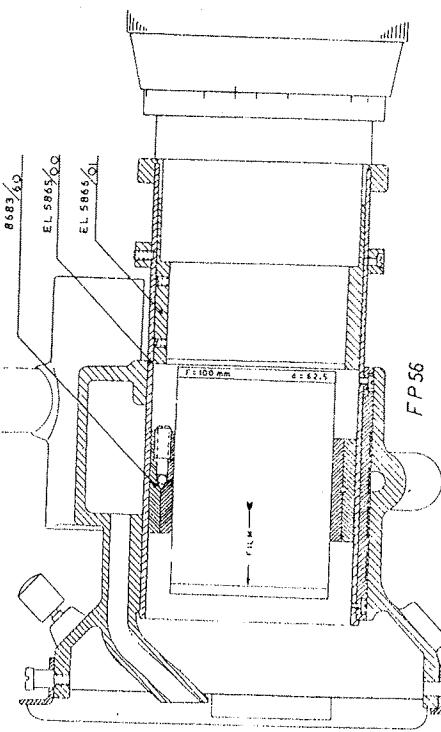

Fig. 20
1:2.34	CinemaScope Fig. 20
b. CinemaScope projection with the FP 56 projector (fig. 20)